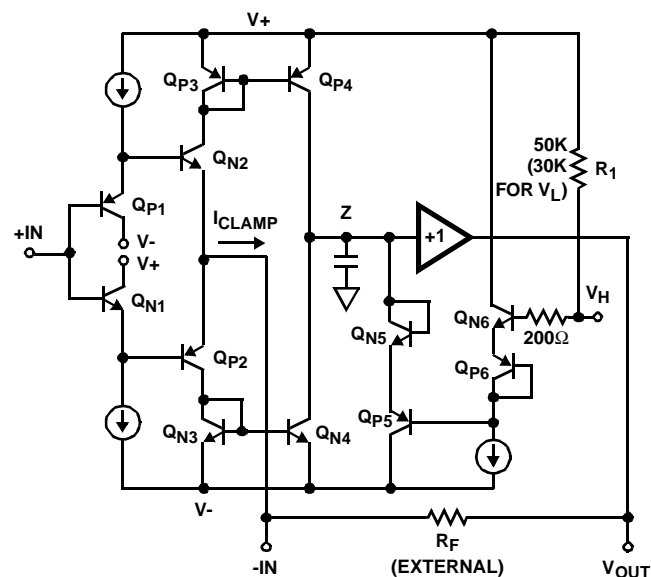

FIGURE 1. HFA1130 SIMPLIFIED V_H CLAMP CIRCUITRY
Figure 1 shows a simplified schematic of the HFA1130 input stage, and the high clamp (V_H) circuitry. As with all current feedback amplifiers, there is a unity gain buffer ($Q_{X1} - Q_{X2}$) between the positive and negative inputs. This buffer forces $-IN$ to track $+IN$, and sets up a slewing current of $(V_{-IN} - V_{OUT})/R_F$. This current is mirrored onto the high impedance node (Z) by $Q_{X3} - Q_{X4}$, where it is converted to a voltage and fed to the output via another unity gain buffer. If no clamping is utilized, the high impedance node may swing within the limits defined by Q_{P4} and Q_{N4} . Note that when the output reaches its quiescent value, the current flowing through $-IN$ is reduced to only that small current ($-I_{BIAS}$) required to keep the output at the final voltage.
The clamped output voltage will not be exactly equal to the voltage applied to V_H or V_L . Offset errors, mostly due to V_{BE} mismatches, necessitate a clamp accuracy parameter which is found in the device specifications. Clamp accuracy is a function of the clamping conditions. Referring again to Figure 1, it can be seen that one component of clamp accuracy is the V_{BE} mismatch between the Q_{X6} transistors, and the Q_{X5} transistors. If the transistors always ran at the same current level there would be no V_{BE} mismatch, and no contribution to the inaccuracy. The Q_{X6} transistors are biased at a constant current, but as described earlier, the current through Q_{X5} is equivalent to I_{CLAMP} . V_{BE} increases as I_{CLAMP} increases, causing the clamped output voltage to increase as well. I_{CLAMP} is a function of the overdrive level $(V_{-IN} - V_{OUTCLAMPED})$ and R_F , so clamp accuracy degrades as the overdrive increases, or as R_F decreases. As an example, the specified accuracy of $\pm 60mV$ for a 2X overdrive with $R_F = 510\Omega$ degrades to $\pm 220mV$ for $R_F = 240\Omega$ at the same overdrive, or to $\pm 250mV$ for a 3X overdrive with $R_F = 510\Omega$.